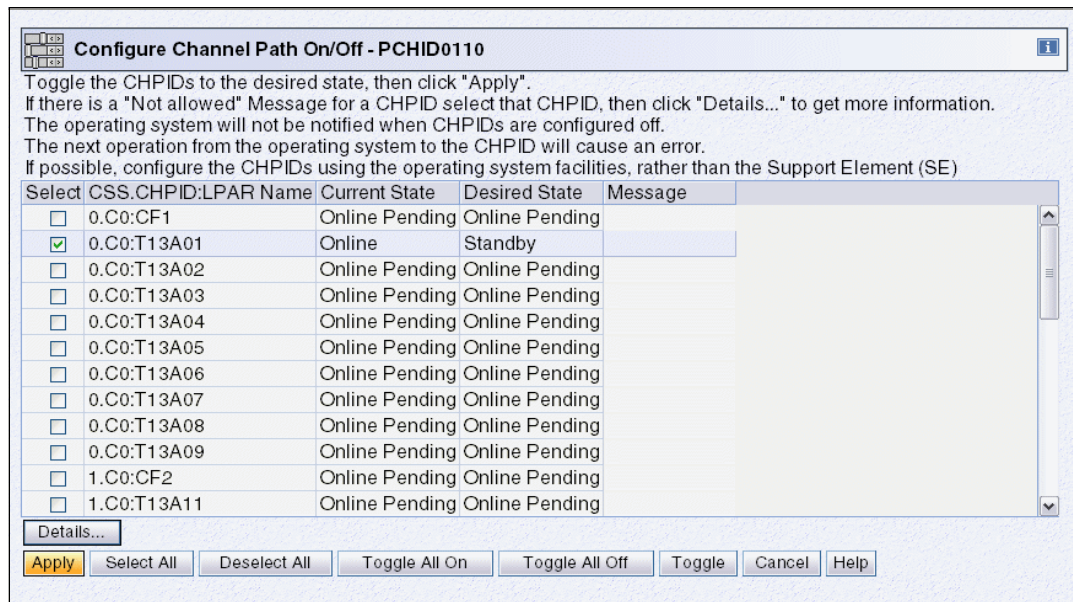
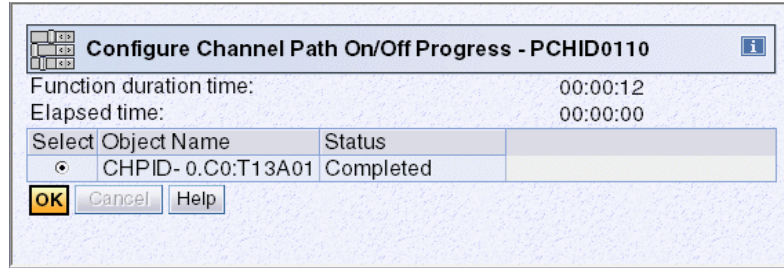

Figure 7-9 Configure Channel Path On/Off
Figure 7-10 Configure Channel Path On/Off progress
- Click the check box for the CHPID:LPAR name, 0.C0:T13A01, in the example. Click **Toggle** to switch the desired state to standby and click **Apply** (Figure 7-9 on page 251). Now that the last timing link security has been removed, the CHPID reconfiguration continues normally. The Configure Channel Path On/Off Progress window displays the completion of the operation (Figure 7-10).